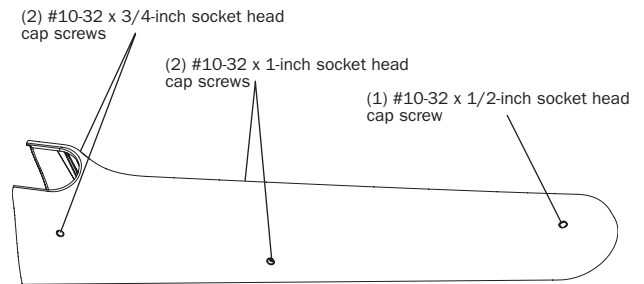

Figure 37. Attaching the plastic front leg caps
**1** Place the front leg caps over each leg. Attach each front cap with the screws indicated in Figure 37.